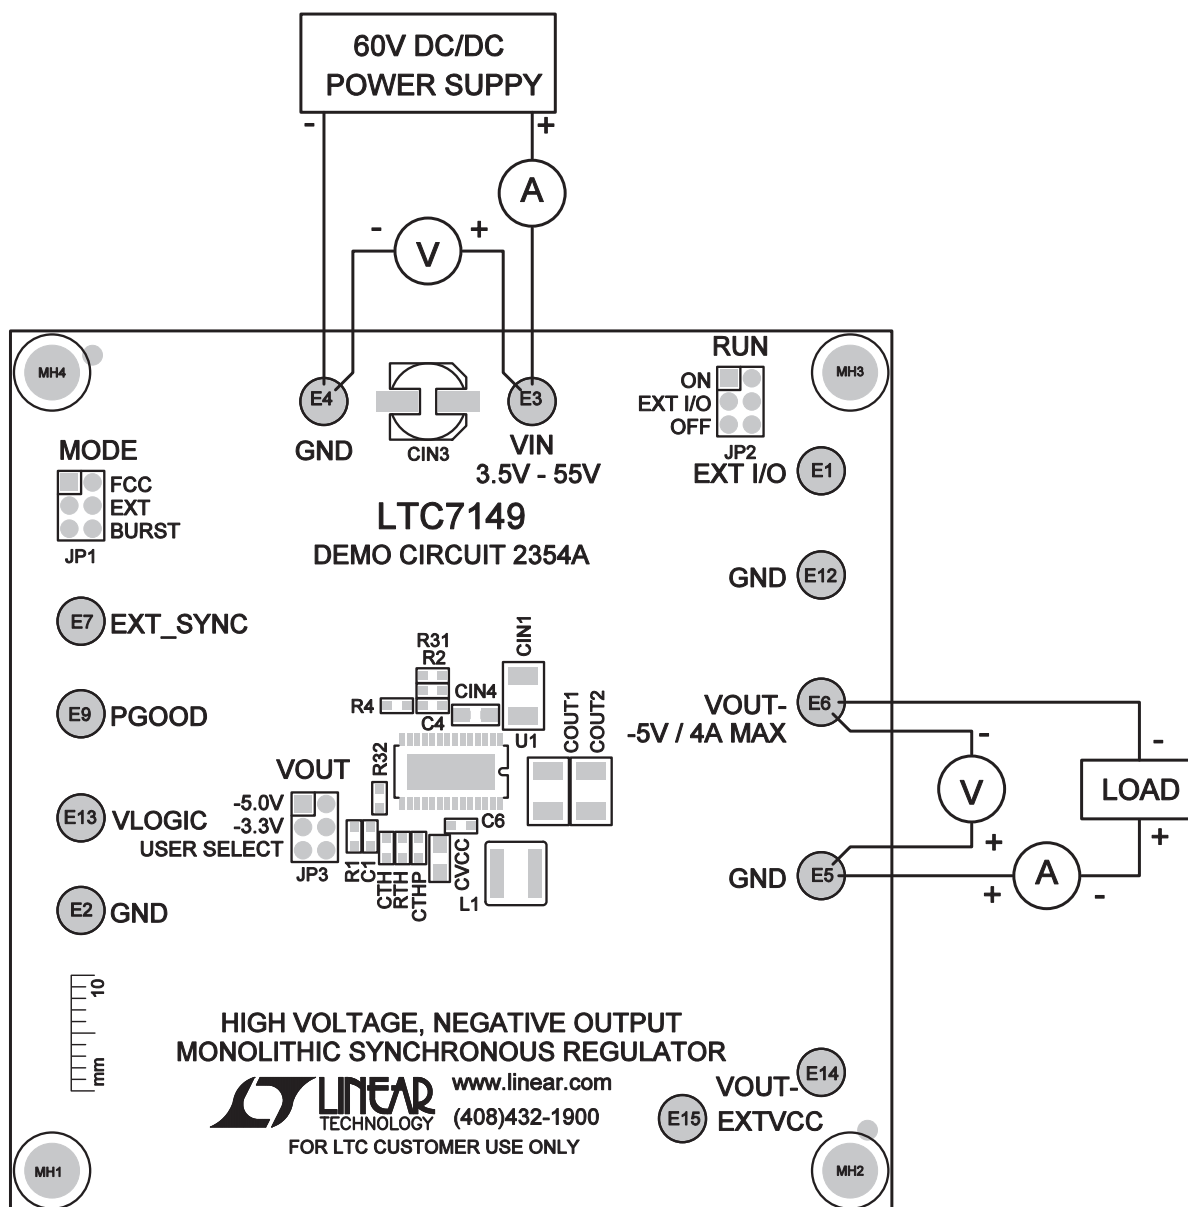

Figure 1. Proper Measurement Equipment Setup
Demonstration circuit 2354A is easy to set up to evaluate the performance of the LTC7149. For proper measurement equipment configuration, set up the circuit according to the diagram in Figure 1. Before proceeding to test, insert shunt into JP2 (RUN) into OFF position, which connects the RUN pin to ground (GND), and thus, shutdown the output. Set jumper JP1 (MODE) into FCC (Forced Currents Conduction Mode) position. Set jumper JP3 (V_{OUT^-}) into $-5.0V$ position.
1. With the DC2354A set up according to the proper measurement and equipment in Figure 1, apply 16V at V_{IN} . Measure V_{OUT^-} ; it should read 0V. If desired, one can measure the shutdown supply current at this point. The supply current will be approximately 14 μ A, or less, in shutdown.